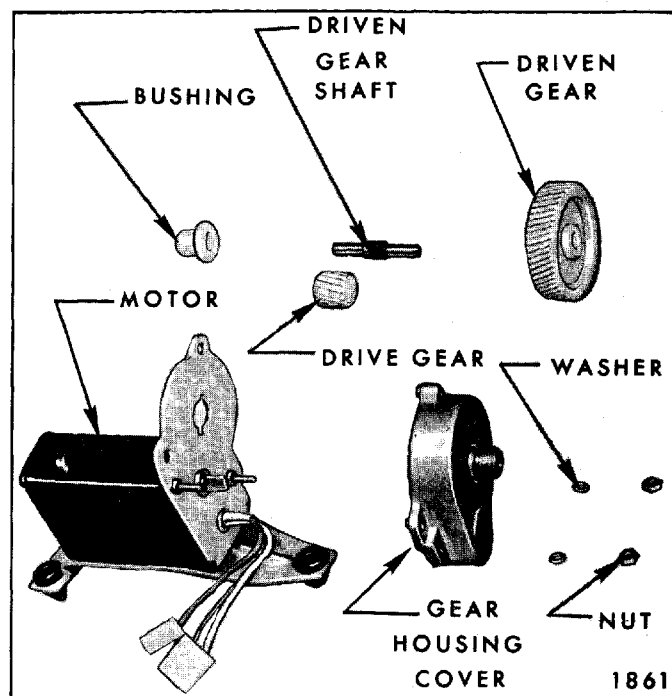

Fig. 6-76—Folding Top Lift Disassembled
4. Disassemble folding top lift assembly as shown in Figure 6-76.